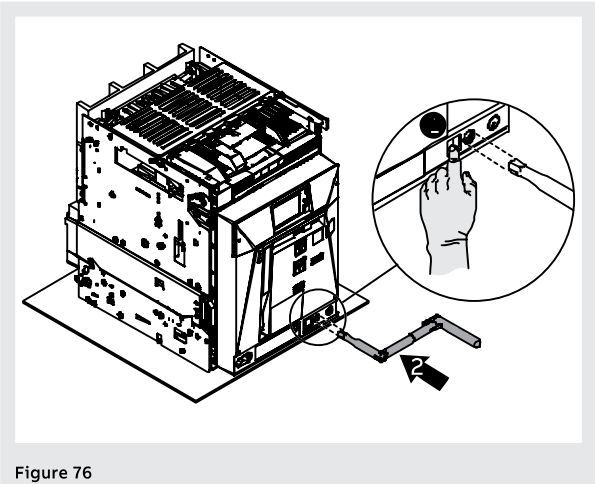

Figure 76
8. Press the lock pushbutton and fit the handle into the moving part. In this phase, the moving part will still be in the **DISCONNECT** position. See Figure 76.